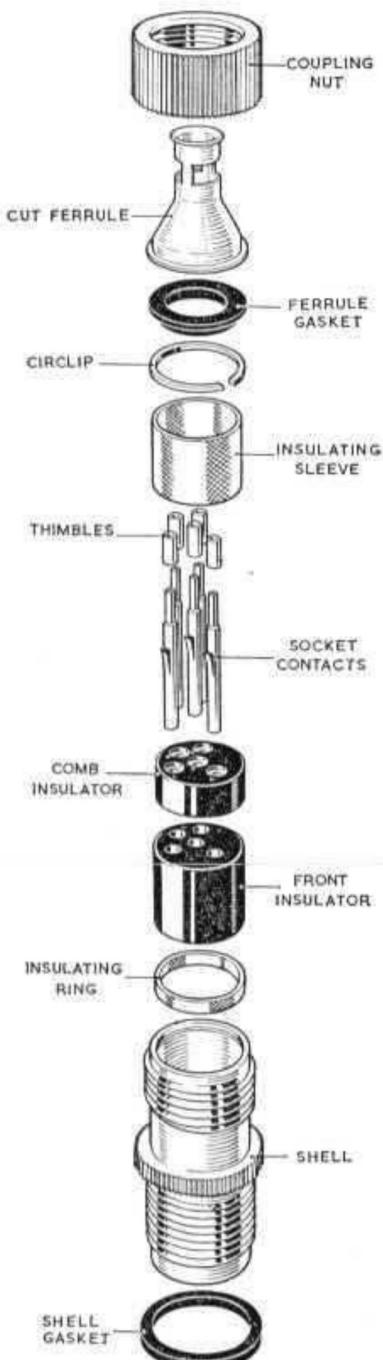

Fig. 6. Free unit (exploded) with coupling nut and cut ferrule, climatic-proof
15. Units at stage 3 (fig. 6 and 8) differed from those at stage 2 in that the shell rim and the coupling nut have straight knurls. The use of a comb insulator in this type restricts the use of the unit to
##### Coupling nut (Table 27, fig. 6 and 7)
#### *Cut ferrule (round base) (Table 37 and fig. 6)*